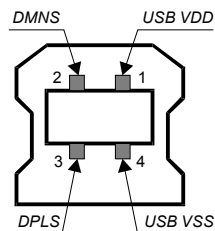

Fig. 2-22. Pinout of USB device connector for TORNADO-E54x.
TORNADO-E54x on-board USB device connector is the industry standard USB type 'B' receptacle with pinout presented at figure 2-22. The mating plug is the USB device plug available on all host-to-device USB cables.
- if required, connect USB type 'B' cable plug of USB cable into on-board JP15 USB device connector (figure 2-22)